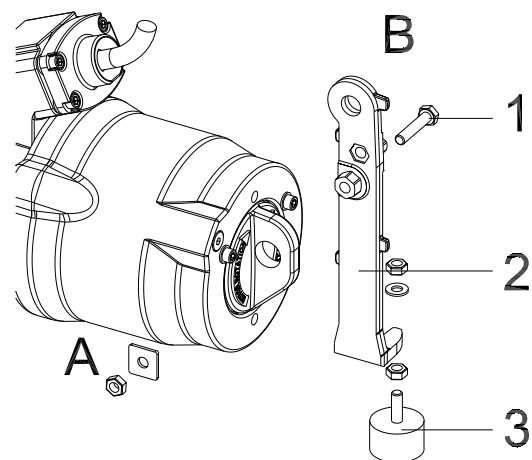

Figure 8 Fitting of head support AFP M15 - M60
The pump head support (2) is rotated by 180° and fitted via "Eyelet B" as shown in Figure 8.